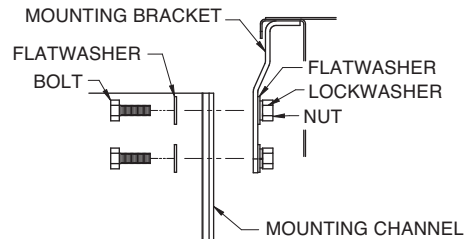

Figure 29
2. At each hole, attached the mounting channel to the bracket using 3/8" hardware as shown in Figure 29.